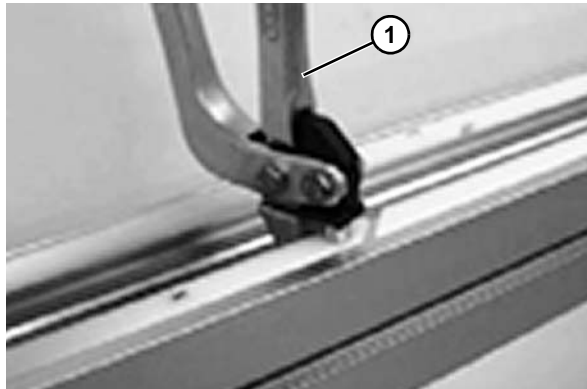

Figure 45
2. Clamp the aluminum rivet by using crimping pliers (**Figure 45, item 1**).